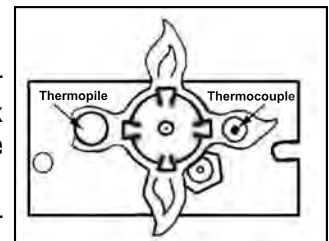

Figure 39: Pilot Burning.
4. Open door. Wait five (5) minutes to clear out any gas. Close door. If you smell gas including near the floor, STOP! Follow "B" in the above safety information. Leak test all gas joints with soapy water **NEVER USE AN OPEN FLAME FOR LEAK TESTING**. If you don't smell gas go to next step.
7. Push the gas control knob in fully and hold. A BATTERY operated electronic igniter will light the pilot. Keep knob depressed for about 30 seconds after pilot is lit. **Check that the pilot flame has fully engulfed the thermocouple assembly (see Figure 39)**. Release knob. If pilot goes out, repeat steps 4 through 6.